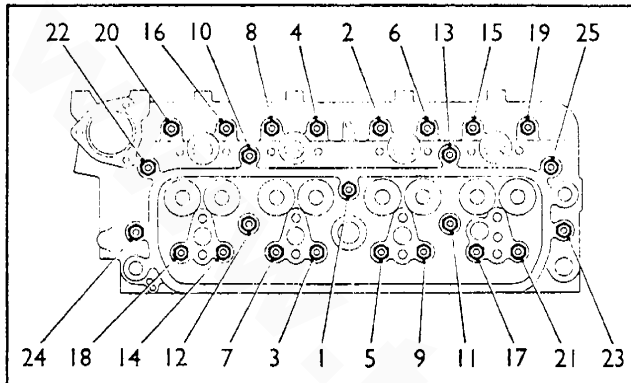

Fig. 1
- b. Tighten the cylinder head nuts in the order shown in Fig. 1. Torque 75 lb. ft.